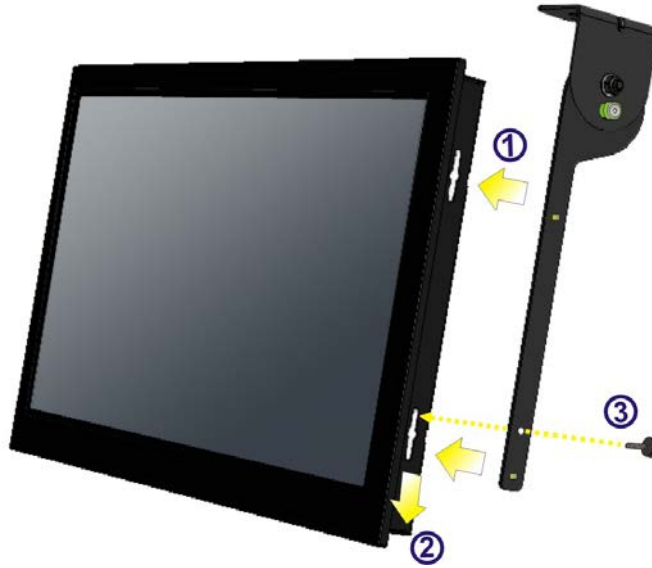

Figure 3-22: Installing Ceiling Mounting Bracket (One Side)
Step 7: Carefully insert the rivets through the holes and pull the bracket downwards until the bracket rest securely in the slotted holes. Then, insert a captive screw and tighten it firmly to secure the bracket. See **Figure 3-22**.